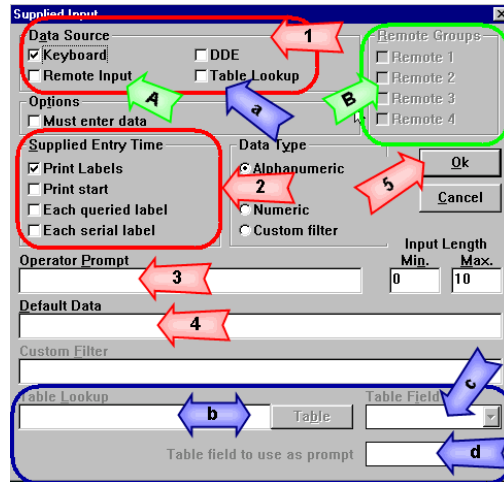

Figure 1-23
1.33. Note that the **Operator Prompt**, (Figure 1-23 Arrow 3) and the **Default Data** (Figure 1-23 Arrow 4) fields are blank, but could and indeed usually do, contain data.
1.33.1. Let's look at some of the other options on this feature. (Figure 1-23)